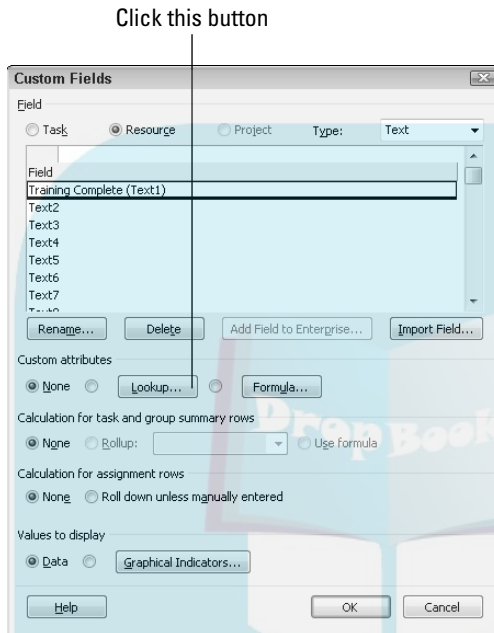

Figure 8-5: You can use the **Rename** button in this dialog box to rename a placeholder field if you like.
5. Back in the Custom Fields dialog box (see Figure 8-5), click the **Lookup** button.